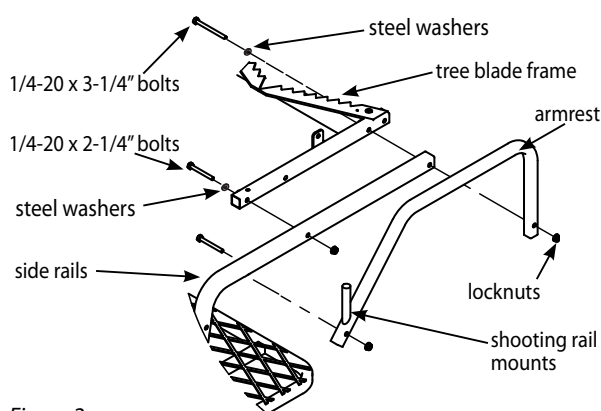

Figure 2
2. Attach the rear (blade end) of tree blade frame (1ML34) to the inside of side rails, and the (2) armrests (AR12) to the outside of side rails using (2) provided 1/4-20 x 3-1/4" bolts, locknuts and steel washers. **SEE FIGURE 2.**
3. Attach the front end of tree blade frame to the side rails and the front end of armrests to the side rails using (4) provided 1/4-20 x 2-1/4" bolts, locknuts and (2) steel washers. **SEE FIGURE 2.**